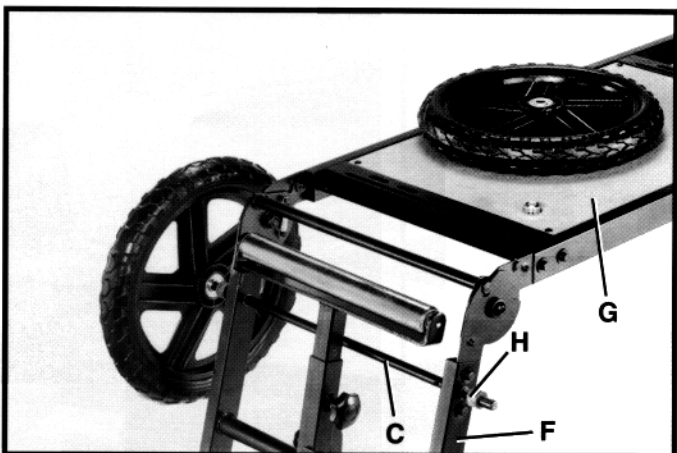

Fig. 18
3. Insert free end of axle (C) Fig. 18, through holes in leg assembly (F) as shown. **NOTE:** Wheels must be assembled to legs on end of stand where the fiberboard (G) is located. Slide spacer (H) on axle against leg, as shown.